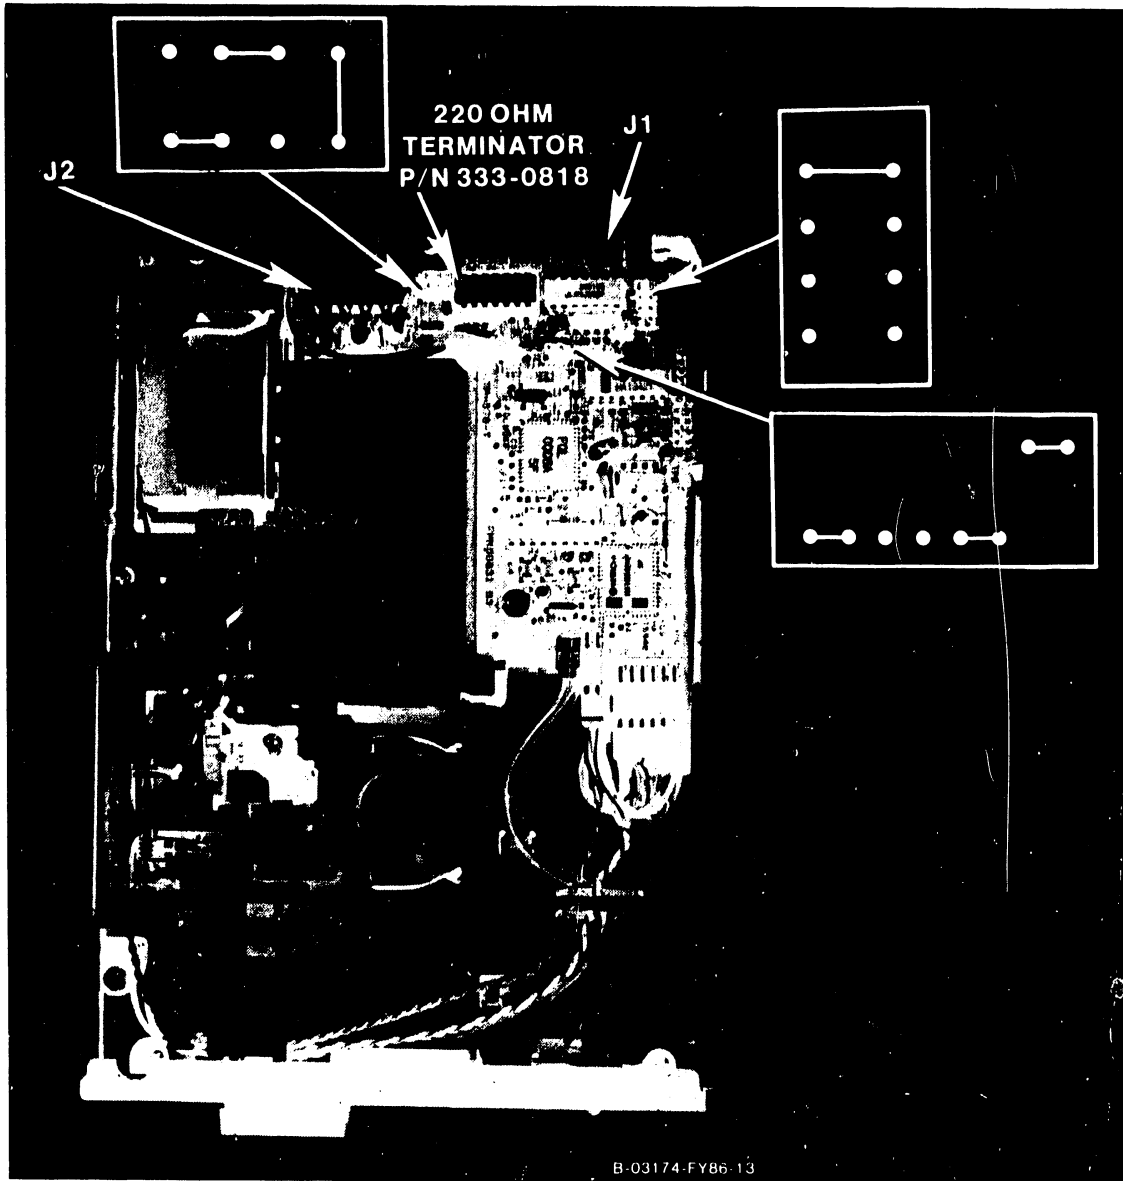

Figure 7-49. SCU PC Floppy Disk Drive Replacement
2. Check the floppy disk drive jumpers as shown in figure 7-49.